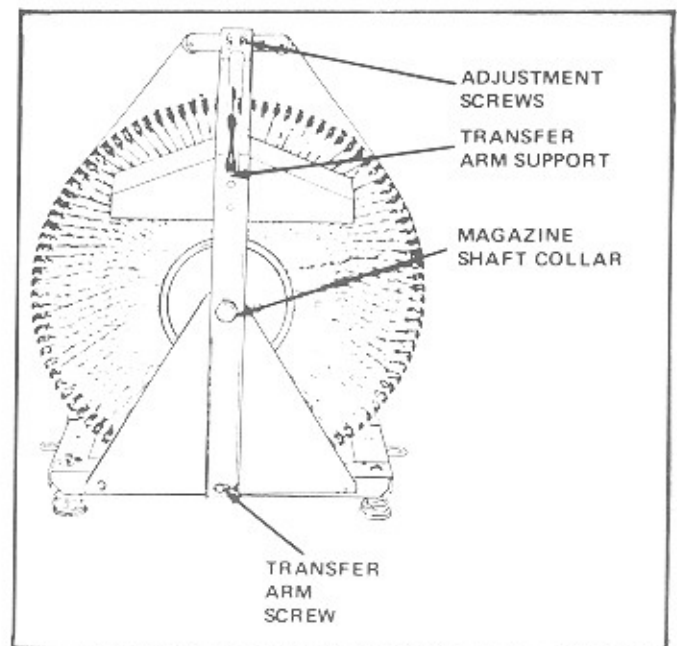

Figure 6-14. Magazine Belt Adjustment
1. Loosen the two adjustment screws shown in figure 6-14.